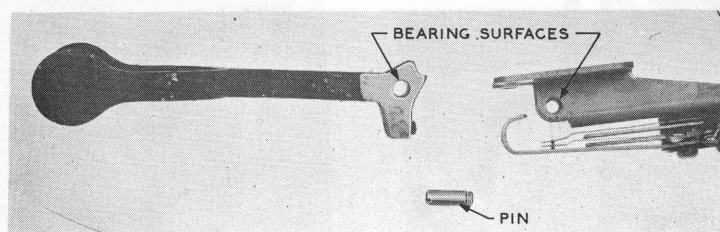

FIG. 1—143A SWITCHHOOK ASSEMBLY
- Lubricate with a No. 2 or softer graphite pencil (see Figs. 1 and 2).